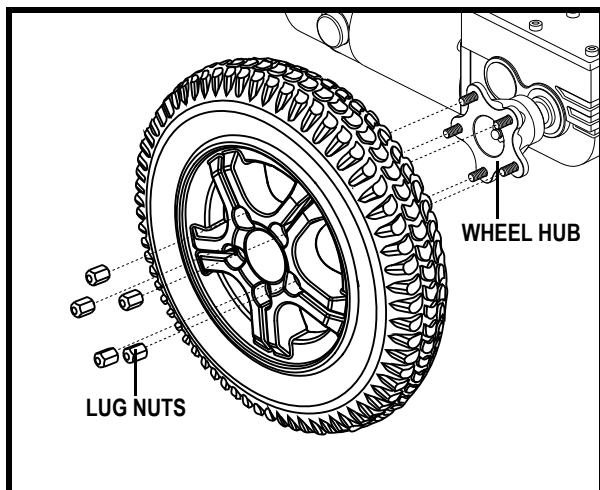

Figure 25. Quantum 600 Sport HD Drive Wheel
4. Remove the five (5) lug nuts from the wheel hub. See figure 25.